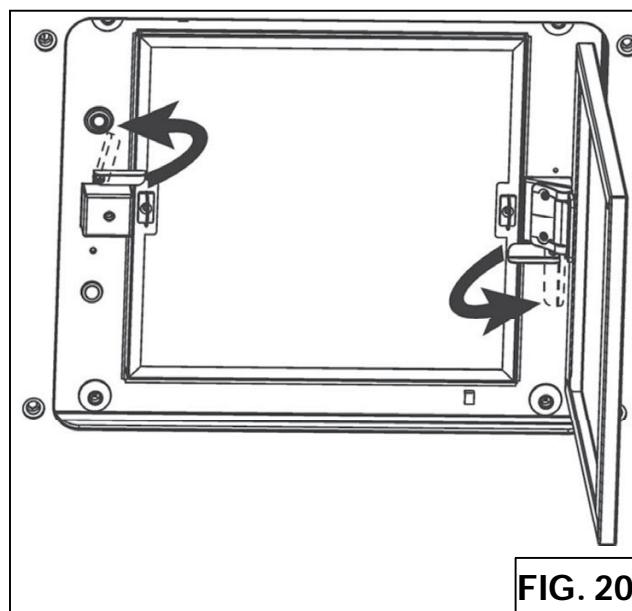

FIG. 20
2. Move the two retaining clips as showed in Fig.20